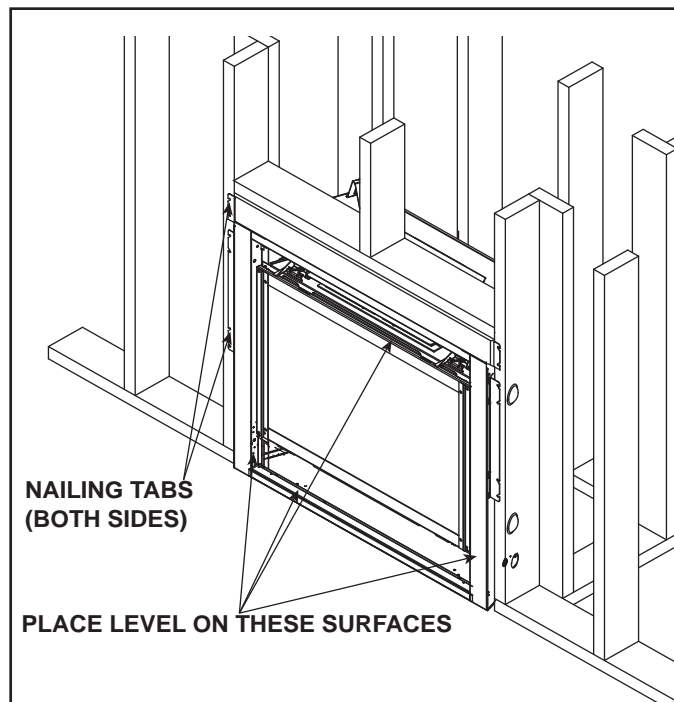

Figure 6.14 Proper Positioning, Leveling And Securing Of An Appliance
The diagram shows how to properly position, level, and secure the appliance. See Figure 6.14. Nailing tabs are provided to secure the appliance to the framing members.
- Place a level on top, sides and bottom as shown in Figure 6.14.